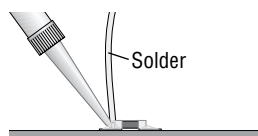

Figure 1.5.
- 4 Fully solder the other end of the component to its pad. Let the solder harden (Figure 1.5).